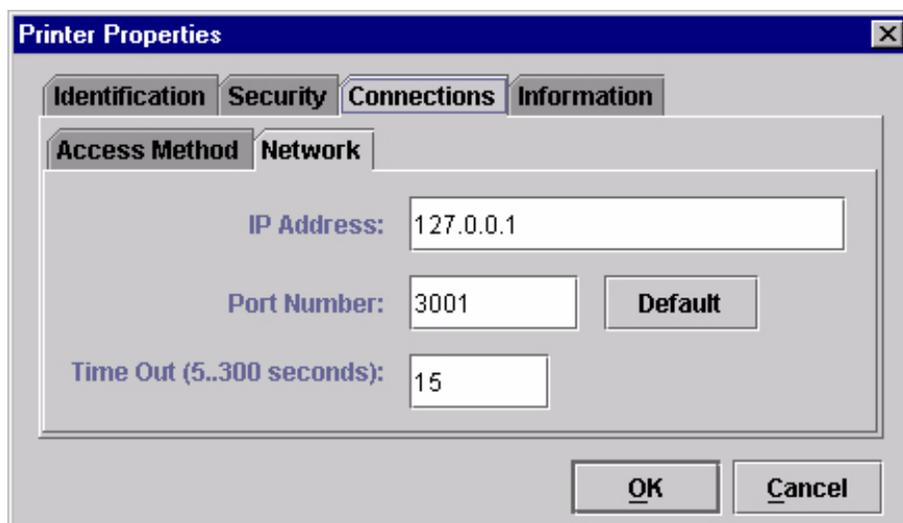

Figure 4. Printer Properties: Connections – Network Tab
9. Click the **IP Address** field and then type the IP Address of the printer you want to access. Follow the format shown in Figure 4.